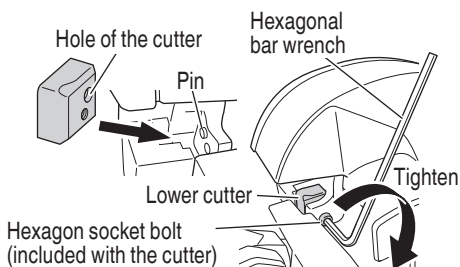

Fig. 39
- (3) Align the hole of the cutter with the position of the pin and attach the cutter. (Fig. 39)